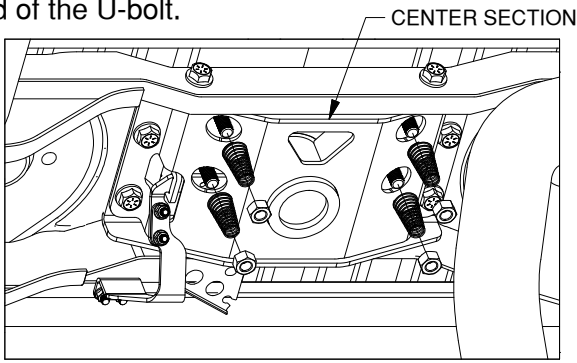

Figure D1: Looking up at frame cross member under truck.
3. **Add springs.** Place a conical spring over each leg of the U-bolts and secure with a 5/8" lock nut, see Figure D1. Tighten the lock nut until the nut is flush with the end of the U-bolt.